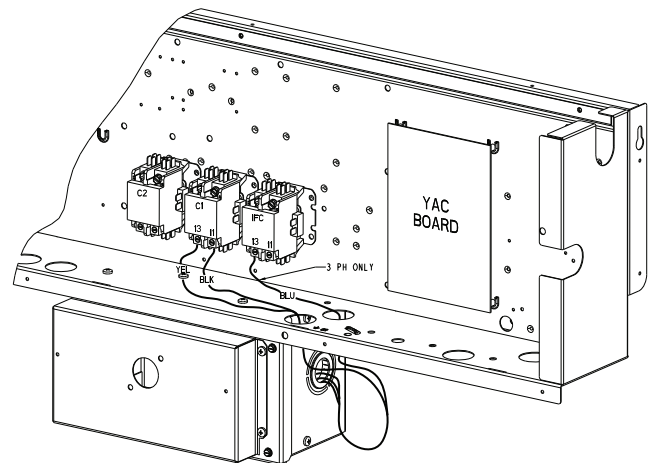

Fig. 32 — NFD Enclosure Location
The factory-installed option non-fused disconnect (NFD) or HACR switch is located in a weatherproof enclosure located under the main control box. The manual switch handle and shaft are shipped in the disconnect or HACR enclosure. Assemble the shaft and handle to the switch at this point. Discard the factory test leads (see Fig. 32).
2. Remove (3) hex screws on the NFD enclosure — (2) on the face of the cover and (1) on the left side cover. See Fig. 32.